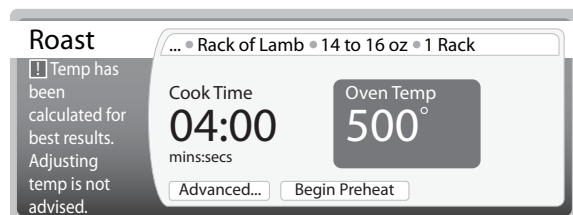

Figure 2.6: Selecting Oven Temp
2. Use the inner CookWheel knob to scroll to "Oven Temp," press knob to select (Figure 2.6).